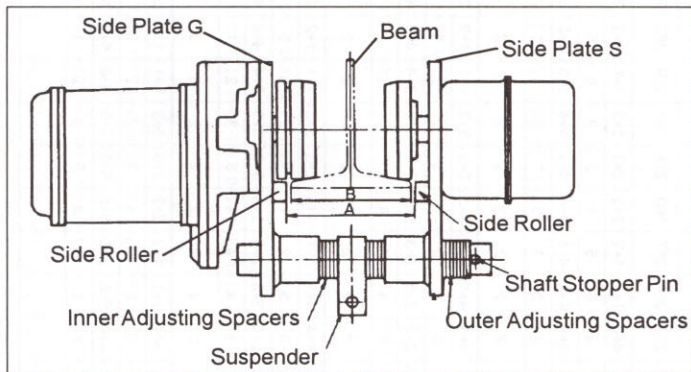

Fig. 2-10
- Refer to Fig. 2-10 below. With the trolley Side Plates spread apart, measure dimensions "A" and "B". Dimension "A" should be $\frac{3}{32}$ " to $\frac{5}{32}$ " greater than Dimension B. If not then move spacers from inner to outer or from outer to inner as necessary to obtain the proper "A" dimension.